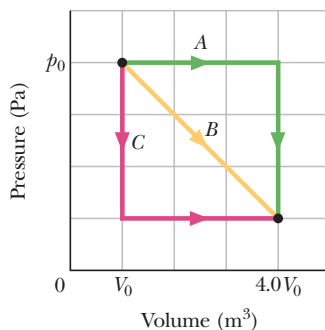

Figure 18-37 Problem 43.
•43 In Fig. 18-37, a gas sample expands from  $V_0$  to  $4.0V_0$  while its pressure decreases from  $p_0$  to  $p_0/4.0$ . If  $V_0 = 1.0$  m3 and  $p_0 = 40$  Pa, how much work is done by the gas if its pressure changes with volume via (a) path A, (b) path B, and (c) path C?